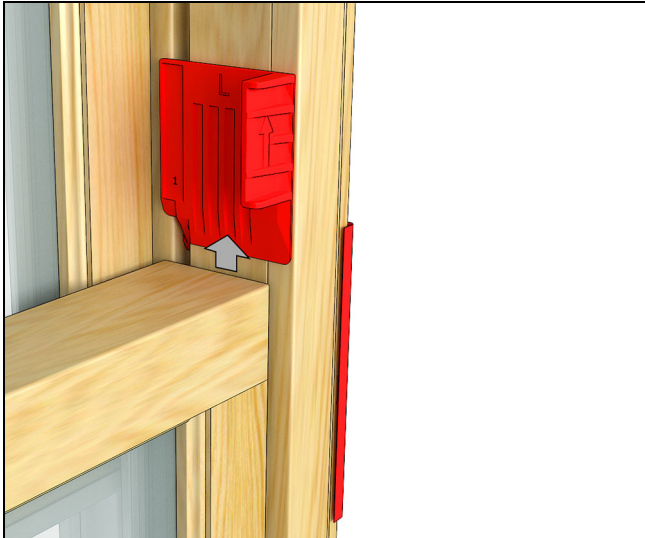

Figure 5
2. Remove shipping clips by pulling upward to release them. See Figure 5.